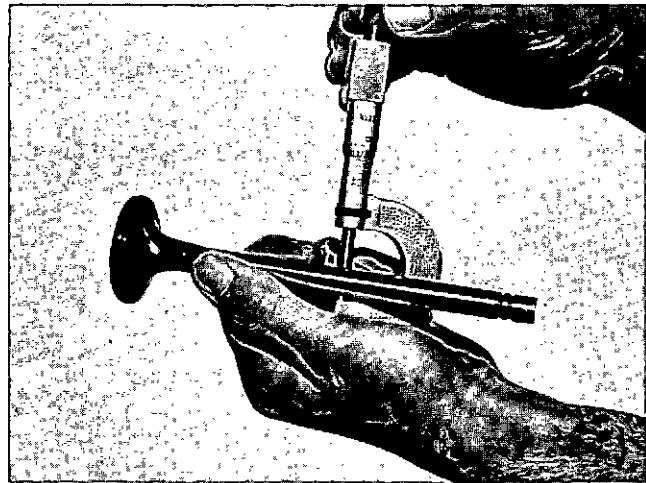

Fig. 2-5-2, V40237. Measure valve stem
b. Stems, Fig. 2-5-2, are scored or worn beyond worn limits. New dimensions are 0.4500 to 0.4510 inch [11.4300 to 11.4554 mm].